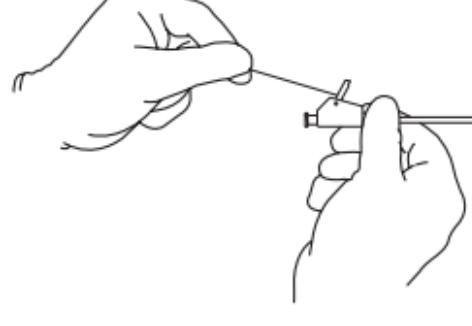

Fig. 1
- a. Stabilize the Mac-Loc hub assembly with one hand and pull back on the suture to form the distal stent loop configuration. (**Fig. 1**)